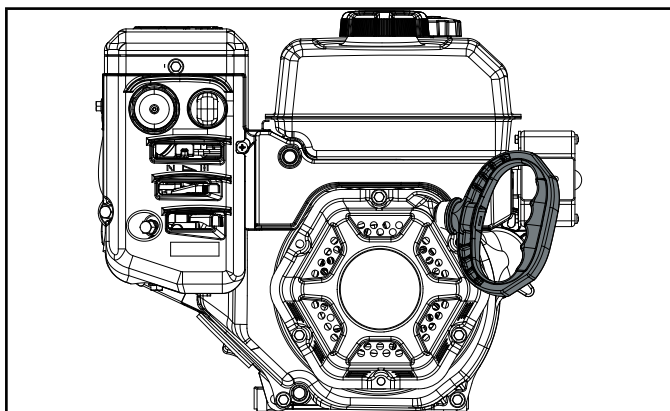

Figure 16
- Stand back and to the right of the unit, pull the starter grip lightly until you feel resistance then pull briskly. Return the starter grip gently (Fig. 16).